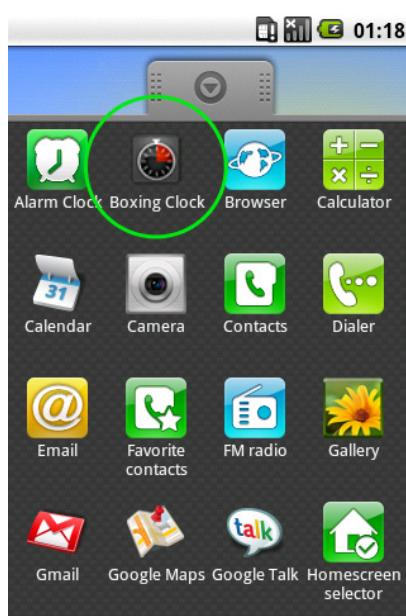

Figure 6-29. Boxing Clock icon in the Android app menu
3. Optionally, copy the program icon (*icon.png*) of three different sizes into *res/drawable-ldpi/*, *res/drawable-mdpi*, and *res/drawable-hdpi*, overwriting the files that are already in there. This will give you an attractive icon, as shown in Figure 6-29.